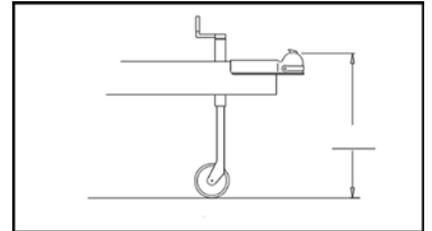

Figure 1: On a level surface, measure the height of your trailer coupler to ground.
•Line up tow vehicle and trailer on level pavement, in straight-ahead position, uncoupled. Level the trailer and measure and record the distance from the ground to the top of the coupler (see Figure 1).
•NOTE: The ball height should be greater than coupler height by approximately 3/4" to 1" (see Figure 1) to compensate for vehicle squat. For vehicles with air springs, air shocks or an automatic leveling system, check vehicle owner's manual. Unless otherwise specified make sure you adjust the ball mount and do the trailer set up with the trailer and vehicle loaded as they will be when towing. Raised balls usually have reduced load ratings. Ball rating MUST equal or exceed trailer GVWR.
•Pin ⑭ and seven spacer washers ⑬ are supplied in order to gain correct downward angle of spring bars. For an initial fitment, try four spacer washers for top mounted couplers and three spacer washers for bottom mounted couplers. Insert pin ⑭ and depending on angle or slope of bars that must be gained, use the least amount of washers ⑬ necessary in order to establish correct angle. (See Figures 1, 2, and 3).
•The pin ⑭ and its accompanying washers ⑬ are placed in the 1/2" hole between the "U" on ball mount 1 to acquire desired angle of spring bar ④. Once spring bar ④ angle has been determined, insert top bolt ⑯ with serrated washer ⑮. Install second serrated washer ⑮ and nut ⑲ to secure unit in correct position. Before tightening bolts, lock (tighten) ball mount set screw. Tighten the 3/4" top bolt ⑯ to 260 ft. lbs. torque once head angle is set. Secure lower bolt ⑯ to 260 ft. lbs. torque. After first day of towing, check ball mount set screw for tightness.